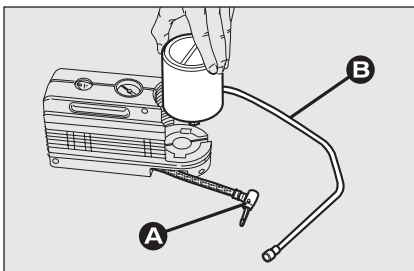

fig. 10
- disconnect connection **A**-fig. 10;